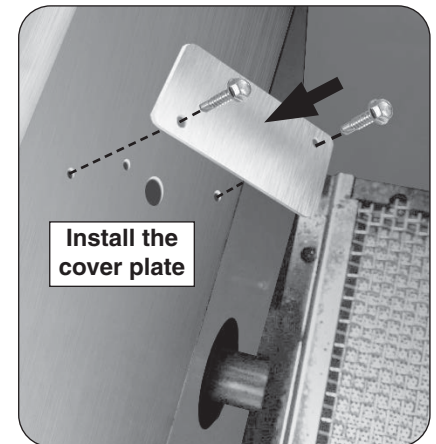

Fig. 5-2 Install cover plate
11. Install the included cover plate to block the exposed holes from the old igniter electrode. See Fig. 5-2.